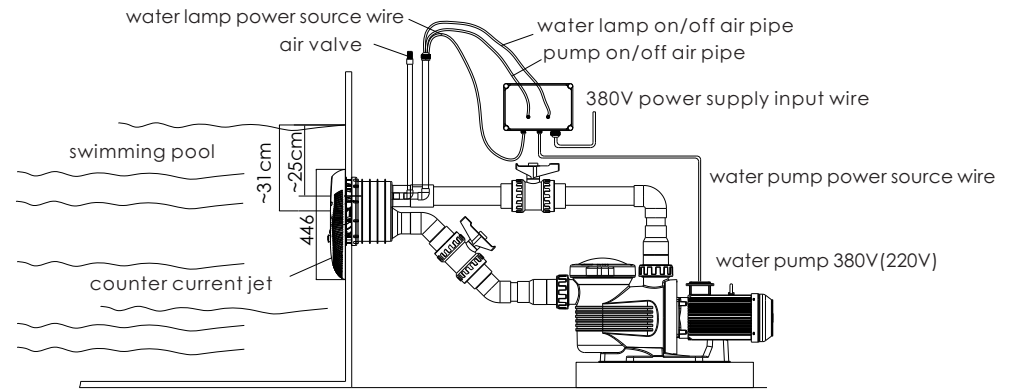

Figure 13
- 1) Please refer to figure 13 for the whole installation.